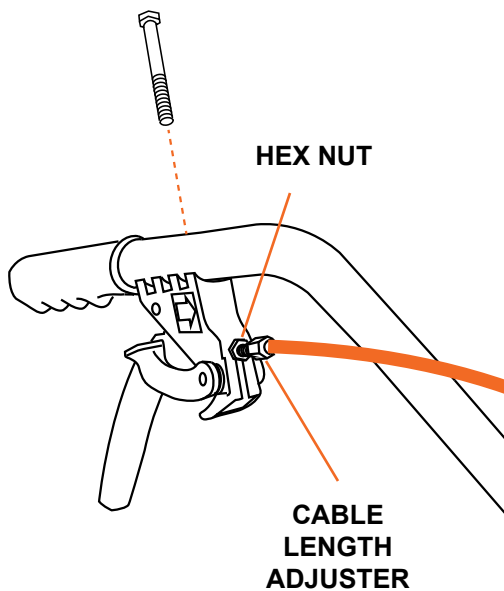

Figure 6
2. Push a socket cap screw through the top of the handlebar into the safety control lever and tighten securely (see Figure 6).